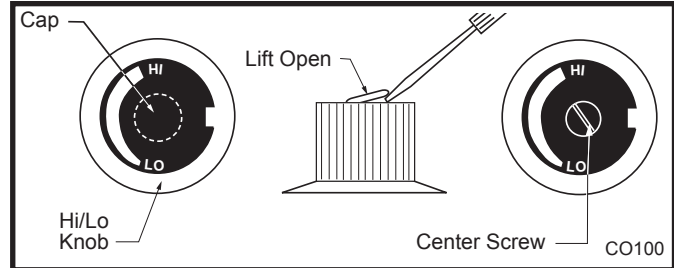

Fig. 52 Remove center screw from Hi-Lo knob.
5. Remove cap from HI/LO knob. This can be accomplished by lifting the plastic cap off the screws. (Fig. 52)
6. Remove the screw from center of HI/LO knob with small screwdriver turnign counterclockwise. (Fig. 52)